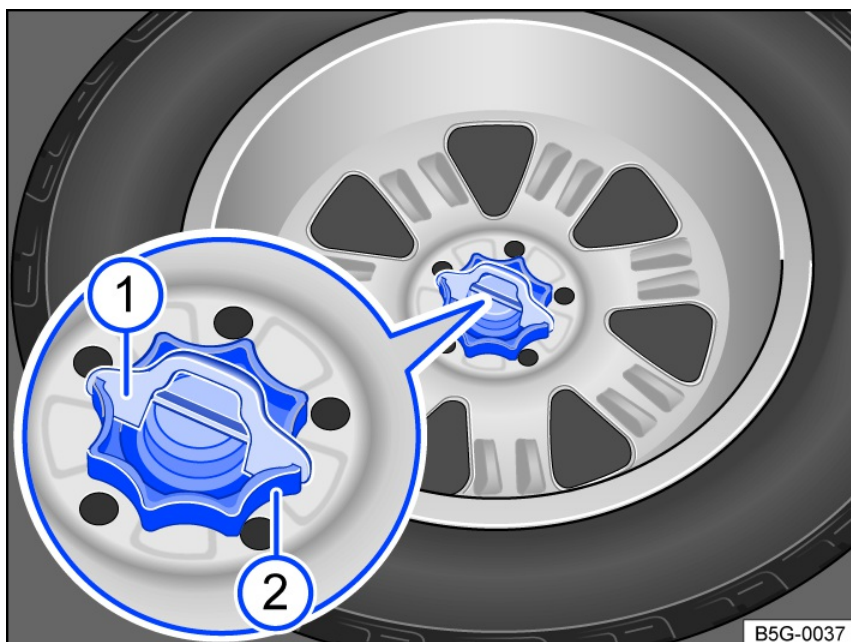

Fig. 157 In the luggage compartment: handle to secure the compact spare wheel.
5. Remove the locking wedge *fig. 157* ① upward.
6. Turn the handwheel in the center of the spare wheel *fig. 157* ② all the way counterclockwise.
6. Position the locking wedge *fig. 157* ① in the slot on the threaded pin so that the handwheel cannot turn.